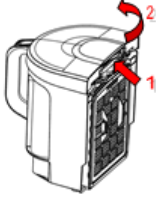

Fig.15
- b) As in fig. 15, rotate the dust chamber cover to separate it from its chamber.